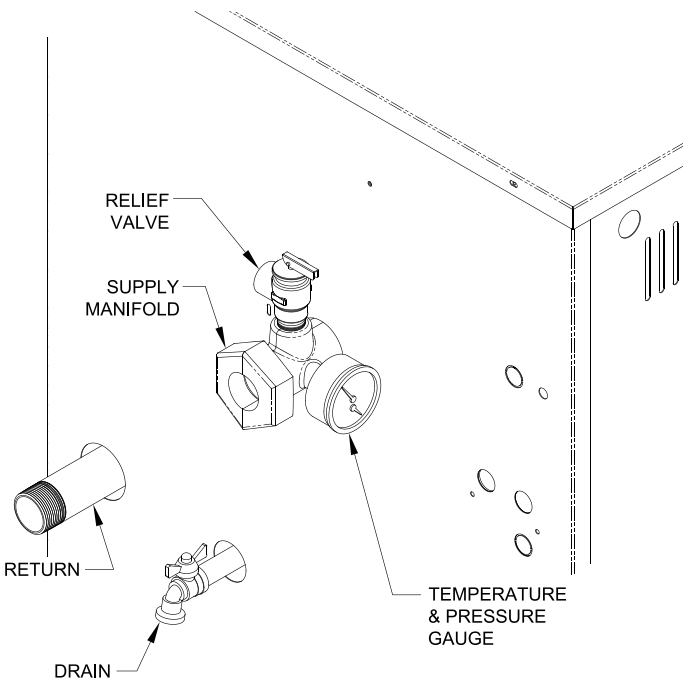

Figure 2: Near Boiler Piping
- C. Install Safety Relief Valve. See Figure 2. Safety Relief Valve must be installed with spindle in vertical position.
- D. Connect system supply and return piping to boiler. Refer to Figures 2, 5 and 6. Also consult Residential Hydronic Heating Installation and Design I=B=R Guide. Maintain minimum ½ inch clearance from hot water piping to combustible materials.